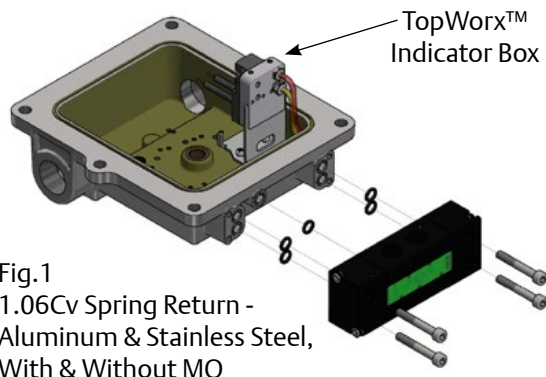

Fig.1
All valves are configured for internal pilot pressure supply. Pilot pressure supply is from Pilot Valve mounted inside the TopWorx™ Indicator Box as shown in Figure 1 (a).
- When assembling this product to a pilot to ATEX 2014/34/EU, take the least favorable category, maximum working pressure and temperature into account. Compliance with the Essential Health and Safety Requirements has been assured by compliance with the European Standards EN 13463-1. The mounting position for the pilots as shown in figure 1 (a).
- ASSEMBLY OF 1.06Cv VERSIONS:** 1.06Cv series valves are directly mounted on Indicator Box. Spring Return valves are mounted with the help of 3 screws and Dual Pilot valves are mounted with the help of 4 screws as shown in figure 1 (a) & 1 (b). Mounting screws are not provided with valve. TopWorx Indicator Box shown in the pictures are only for illustration purpose.